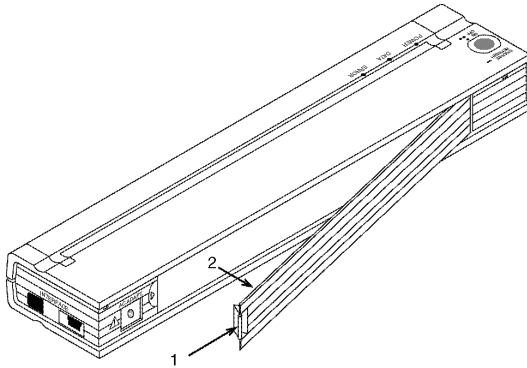

Figure 10. Opening the Battery Cover
1. Open the printer's battery cover by pressing the cover latch. Push the cover away from the AC adapter receptacle. See Figure 10.